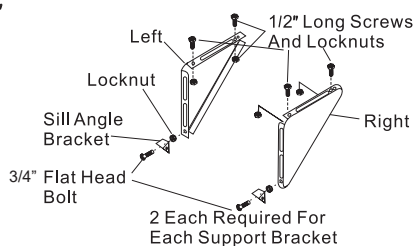

Fig.15B
2. Assemble sill angle bracket to support brackets at the marked position (Fig.15B). Hand tighten, but allow for any changes later.